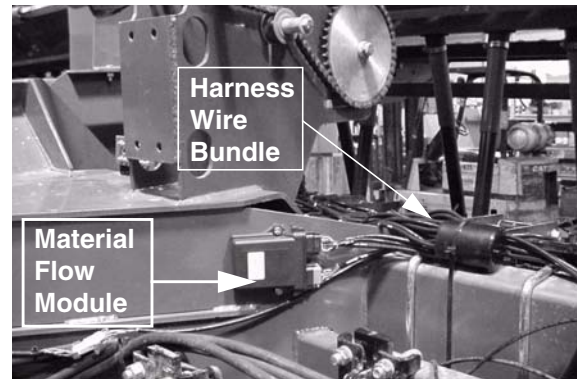

Figure 1
Refer to Figures 1 and 2
1. Mount one each of the material flow modules to the wing frame as shown in figure 1. Mount two each, of the material flow modules, on the right-hand and left-hand side of the center frame using 1/4" x 1 1/2" bolts and 1/4" lock nuts as shown.
1. Mount one each of the material flow modules to the wing frame as shown in figure 1. Mount one material flow module, on the left-hand side of the center frame using 1/4" x 1 1/2" bolts and 1/4" lock nuts as shown.